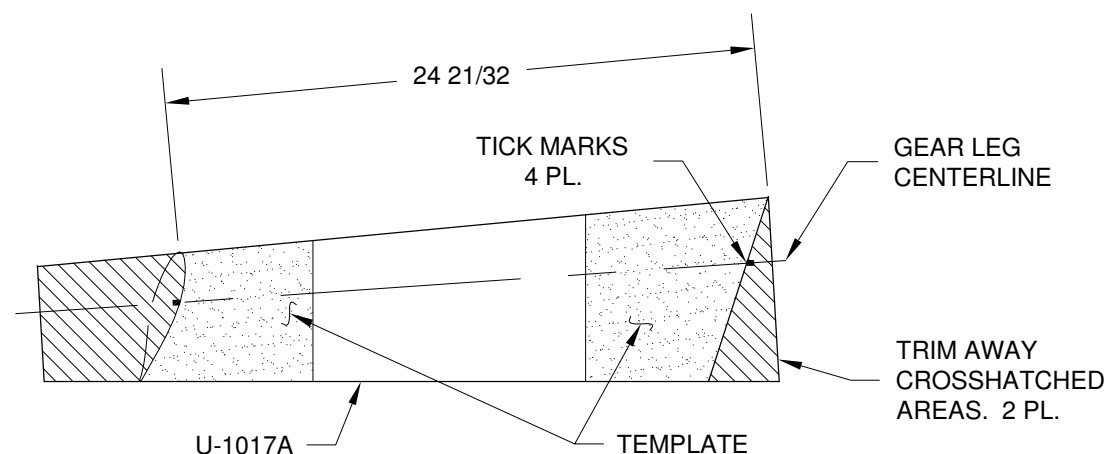

FIGURE 1: TRIMMING THE FAIRING (LEFT SHOWN)
Step 2: Remove Page 48-13 and cut along the U-1017A Upper Trim Template cut line. Smooth the template over the outside of the fairing aligning it to the leading edge parting line. Use spring clamps to hold it in place. Mark the upper cut line on the fairing blank. Make two tick marks, one on each end of the fairing as per the callout in Figure 1. Remove the template and repeat for the other blank.
Cut the template along the U-1017A Lower Trim Template cut line. Use the dimension given in Figure 1 for positioning the lower template and then outline the lower end. **NOTE: When the text of the template is visible a U-1017A-L will be formed.** Make the tick marks here as well. Reverse the template so the text will not be visible and wrap it around the bottom of the other fairing blank and mark the lower cut line to form a U-1017A-R.